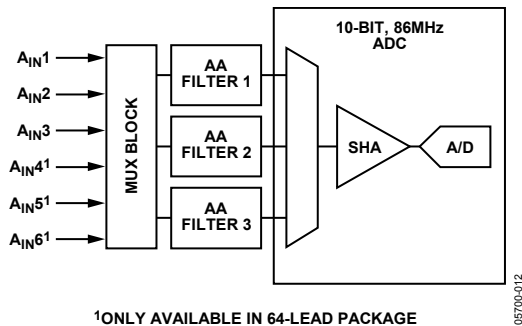
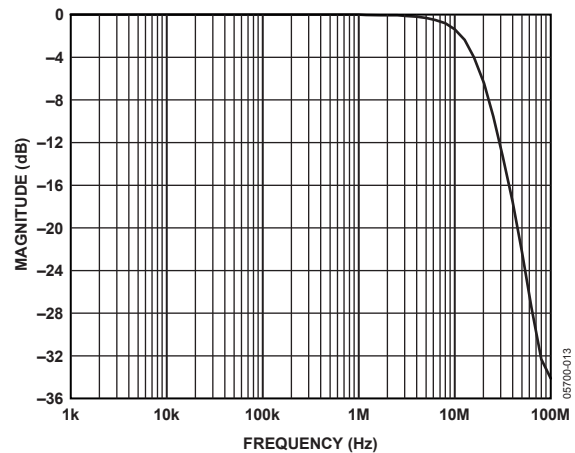
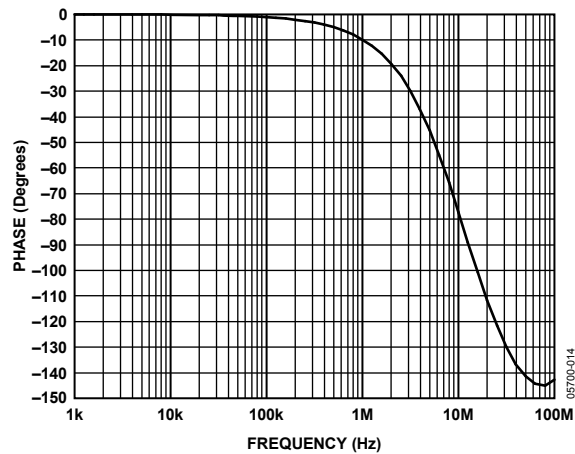

Figure 12. Antialias Filter Configuration
Figure 13. Antialiasing Filter Magnitude Response
Figure 14. Antialiasing Filter Phase Response
The ADV7180 has optional on-chip antialiasing (AA) filters on each of the three channels that are multiplexed to the ADC (see Figure 12). The filters are designed for standard definition video up to 10 MHz bandwidth. Figure 13 and Figure 14 show the filter magnitude and phase characteristics.